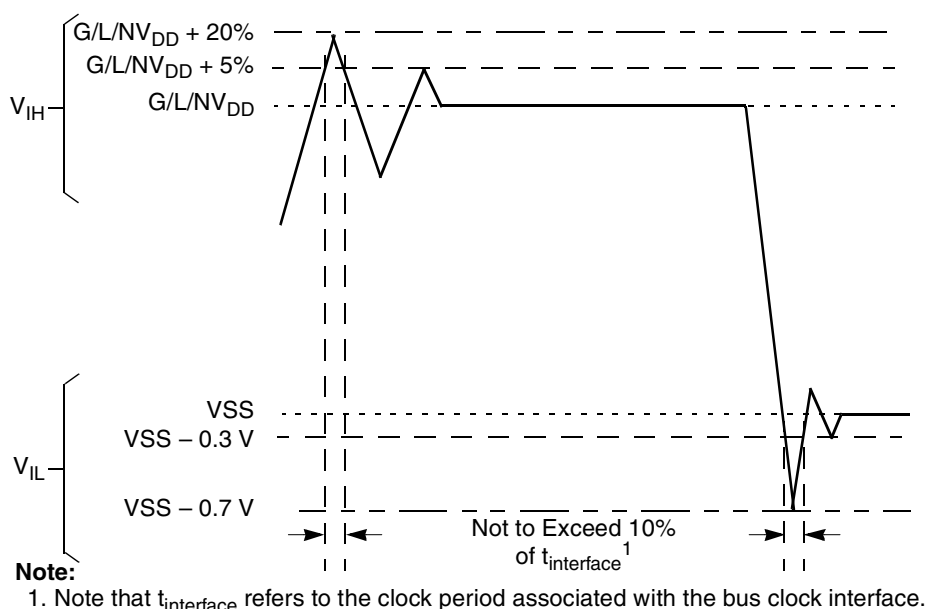

Figure 2. Overshoot/Undershoot Voltage for GVDD/NVDD/LVDD
- (M, L, O)V_{IN} and MV_{REF} may overshoot/undershoot to a voltage and for a maximum duration as shown in Figure 2
Figure 2 shows the undershoot and overshoot voltages at the interfaces of the device.